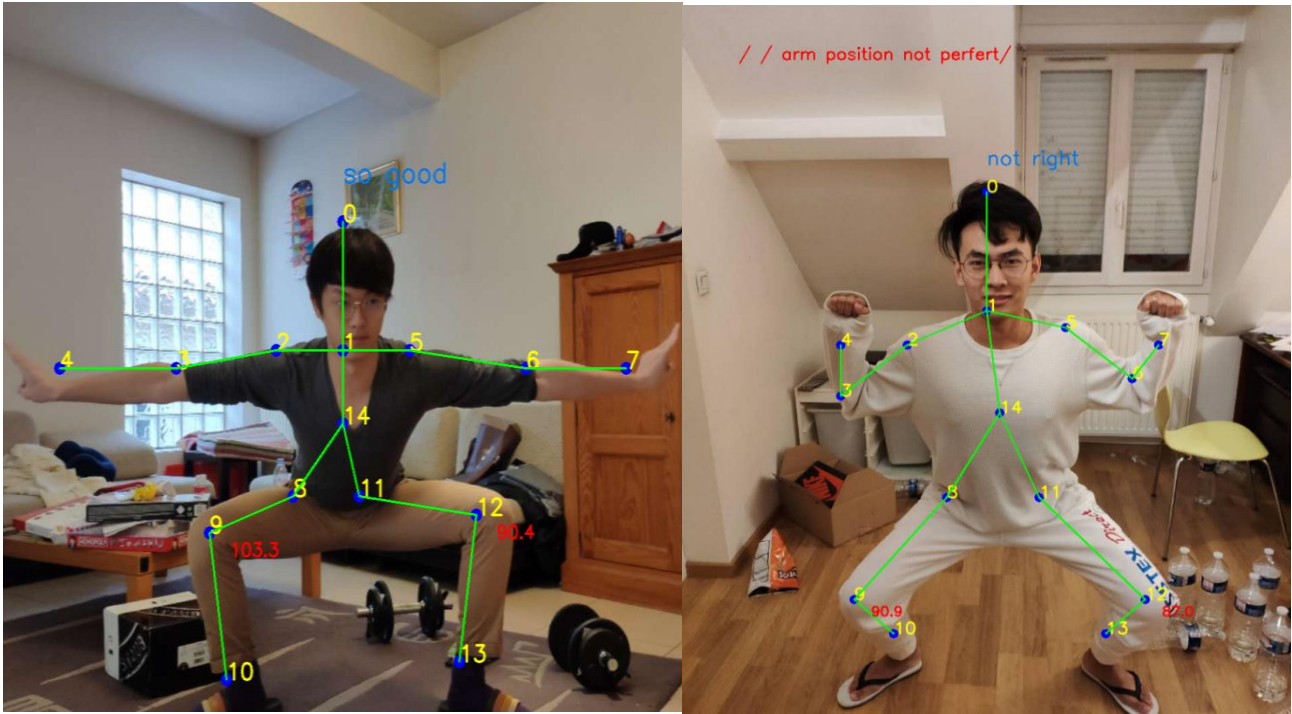

Figure2-3 The left side is a standard-compliant action. The right side is an action that does not meet the standard, and the software gives action suggestions.
- Successfully judge whether the action is standard and give corresponding suggestions (fig.2-3)